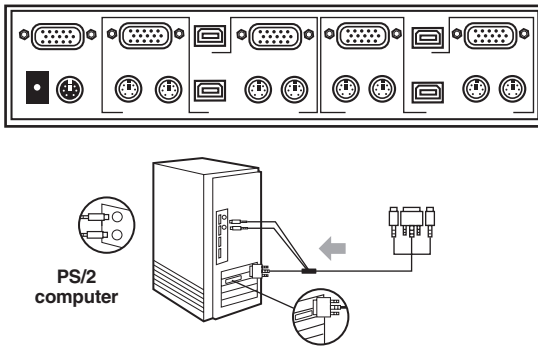

Figure 3-5. PS/2 computer connections.
2. Connect the other end of the cable to the ServSwitch unit's HD15 connector. See Figure 3-5.